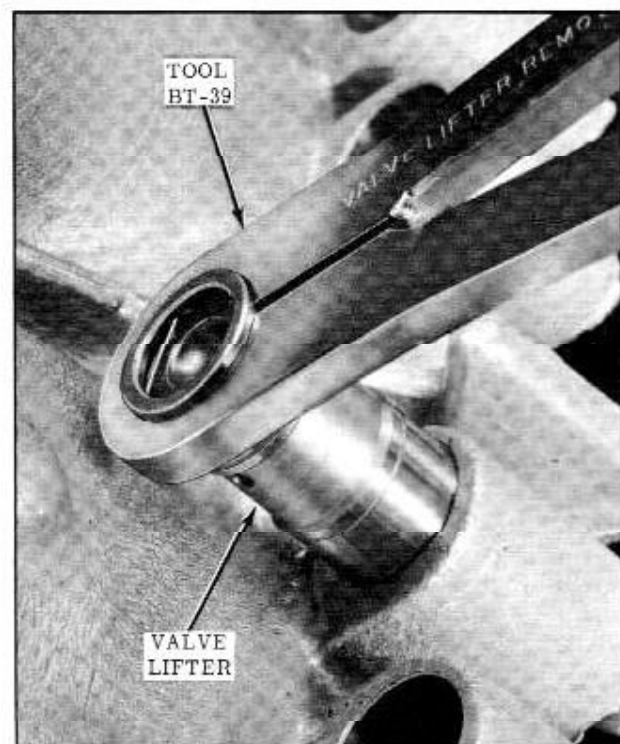

Fig. 8-11 Removing Valve Lifter
4. Remove lifters. Use of Tool BT-39 will aid in removal of varnished lifters. (Fig. 8-11)